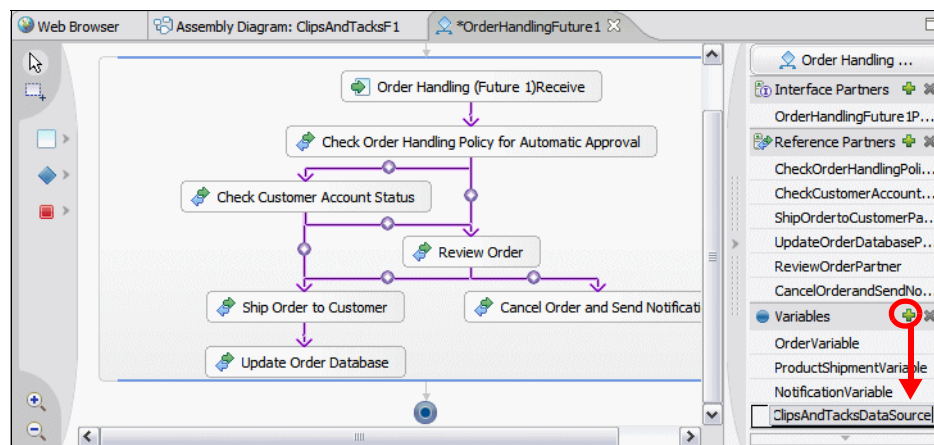

Figure 10-78 Create new variable
- ▶ Create a variable by selecting the  icon. Name the new variable `ClipsAndTacksDataSource` (Figure 10-78).